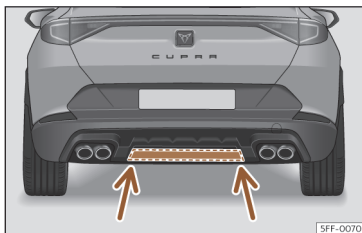

Fig. 86 Lower sensor detection area.
- If the rear lid fails to open, repeat the procedure after a few seconds. The detection zone of the lower sensor may not have been reached >>> **Fig. 86**.